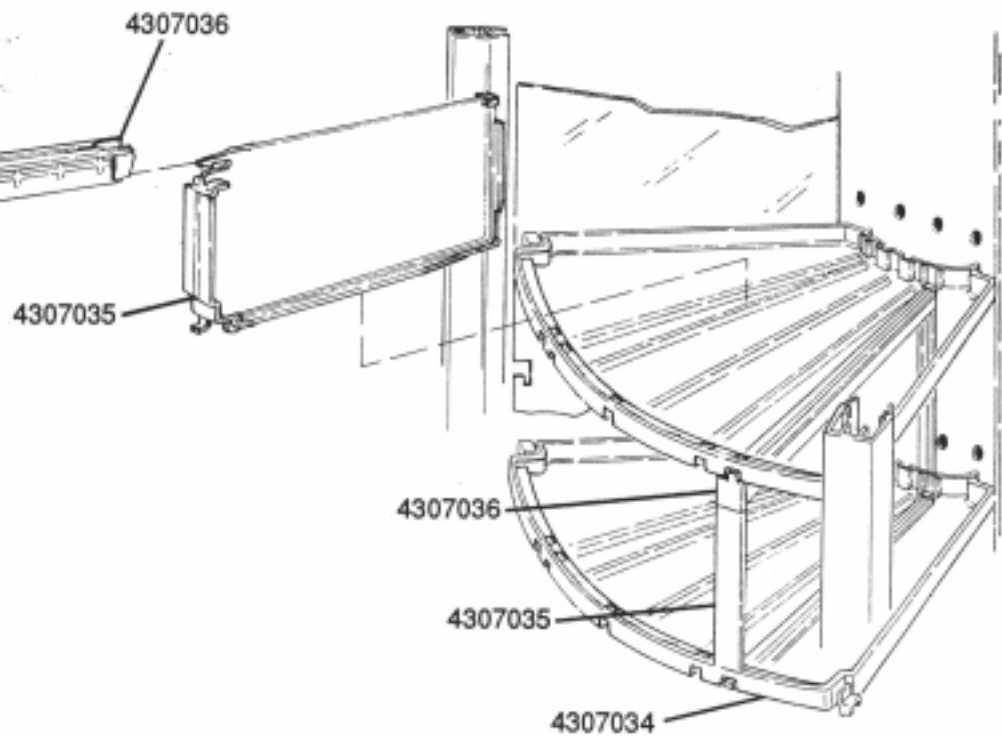

Figure 4.
1. Start at the bottom of the section and install a new product shelf (4307034). The new shelf installs exactly like the original shelf with the tabs at the rear fitting into the holes in the turret. The tabs on the right and left front, fit into the slots in the vertical wall. See Figure 4 and Figure 5.
See Figure 4 for how to install the shelf dividers and retainers.